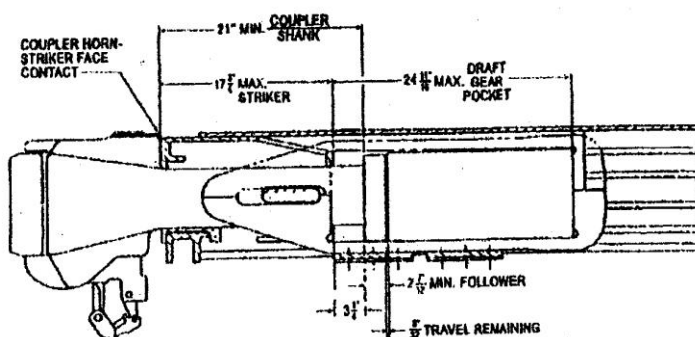

Fig. 2.2 Combination of parts resulting in striker face indentation
2.2.2.1 As a 21 ½ inch –length E type coupler shank approaches its 21-inch condemning limits, the probability for striker /horn contact increase .Fig2.2 illustrates that 3/32inch .draft gear travel remains at the occurrence of striker/coupler horn contact because of construction tolerances when the coupler shanks length is at the condemning limit of 21 inch. A combination of worn components can result in striker contact. To avoid this, it is recommended that the coupler be replaced if its shank length is less than 21 ¼ inch